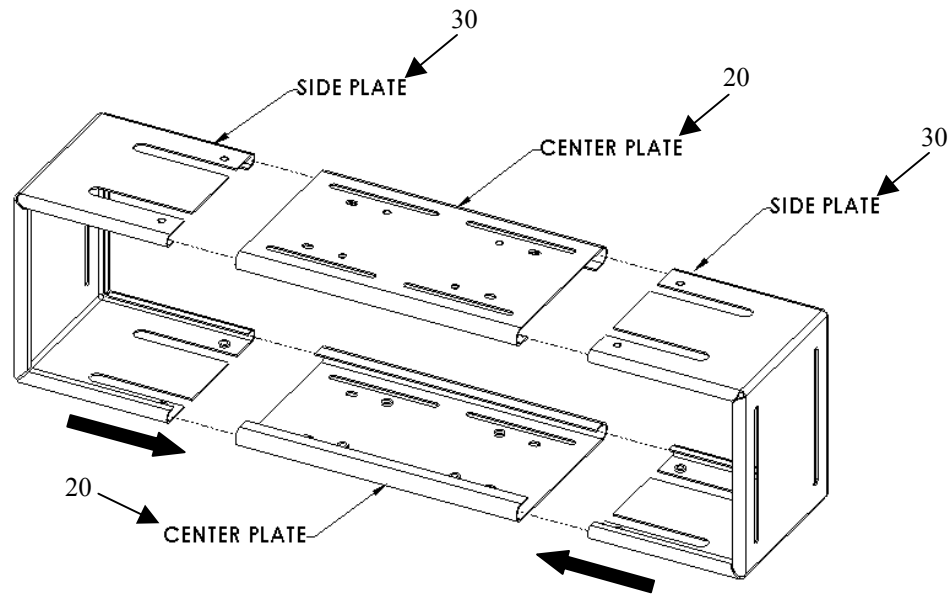

Figure 2. Assemble Center Plates and Side Plates
1. Locate two center plates (20) and two side plates (30). See Figure 2.
2. Interconnect the first side plate (30) with both center plates (20) as shown in Figure 2.
3. Repeat step 2 to interconnect the second side plate (30) with the center plates (20).